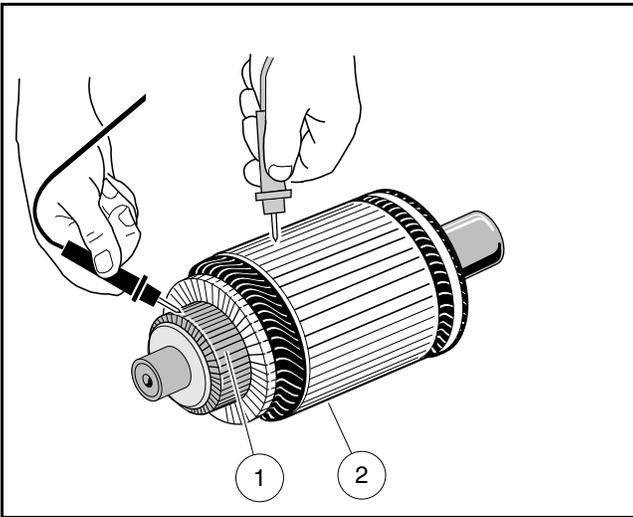

Figure 27-10 Armature Test
1. With a multimeter set to 200 ohms, place one probe on the commutator (1) and the other on the armature core (2). The multimeter should indicate no continuity (**Figure 27-10, Page 27-8**). If the reading is incorrect, replace the armature.